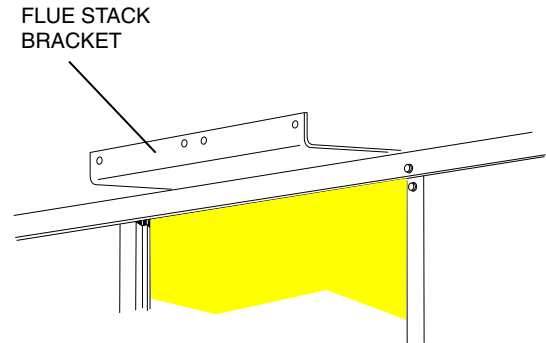

FIGURE 7 : ATTACHING ROOF BRACKET
4. Attach the flue stack bracket, (Item 3), to the furnace section roof, with the double-bend flange extending upwards, as shown in Figure 7. The bracket is notched to clear the roof-seam and roof screws.